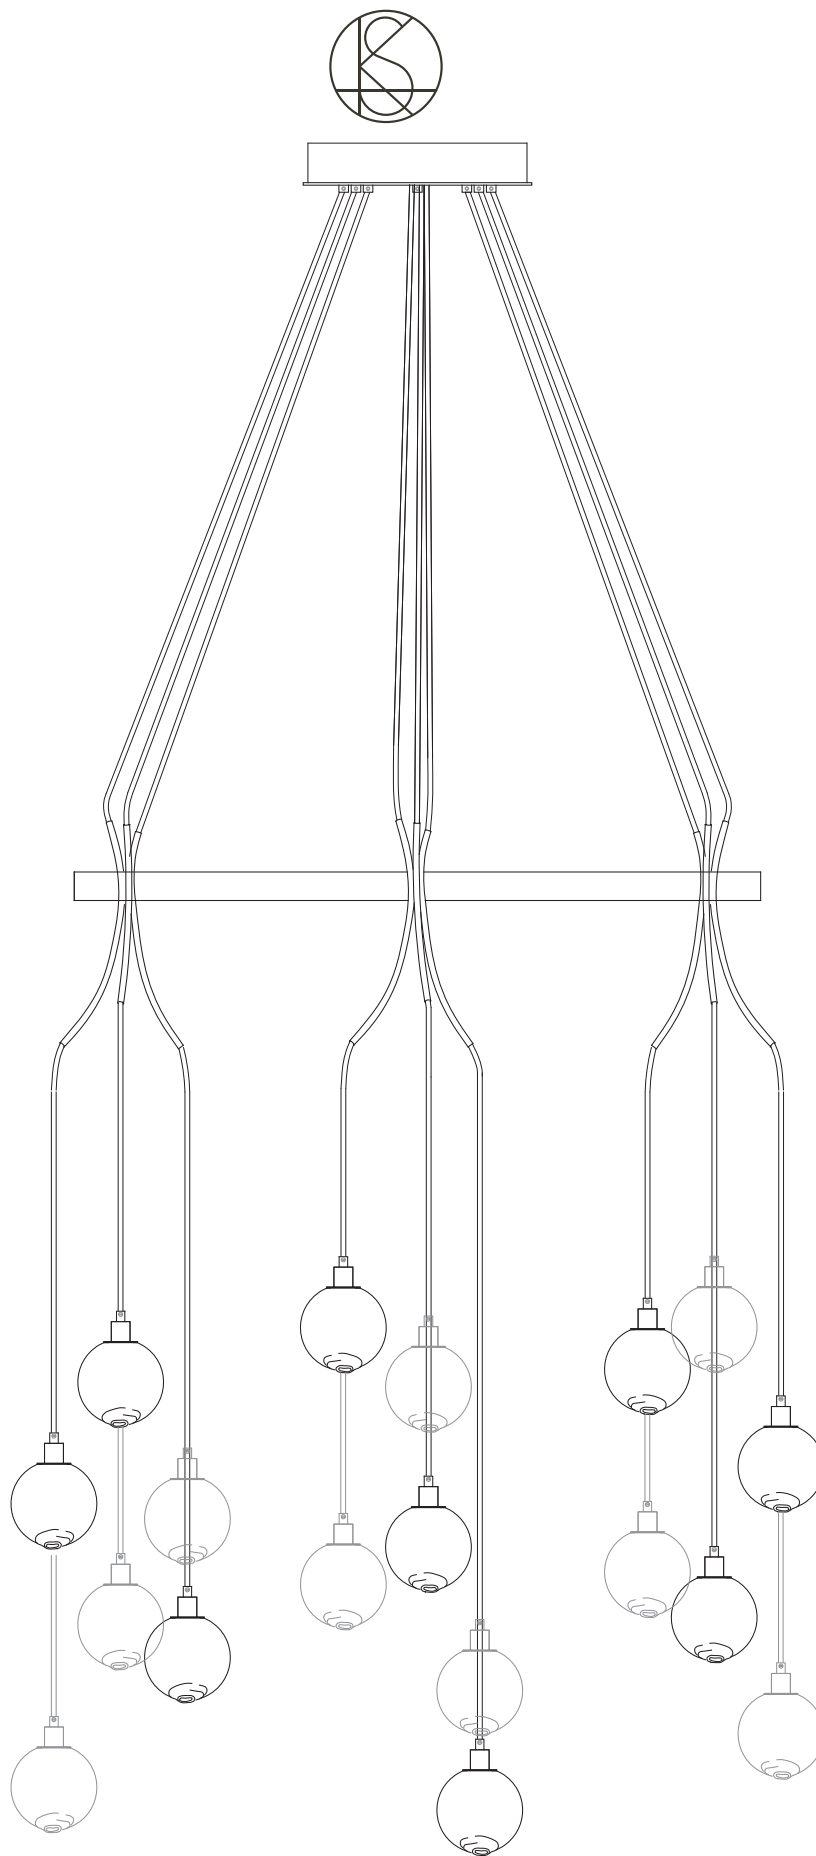

Figure 7. Side view of a completed fixture
- 11 Installation is complete. See example of completed fixture (Figure 7).